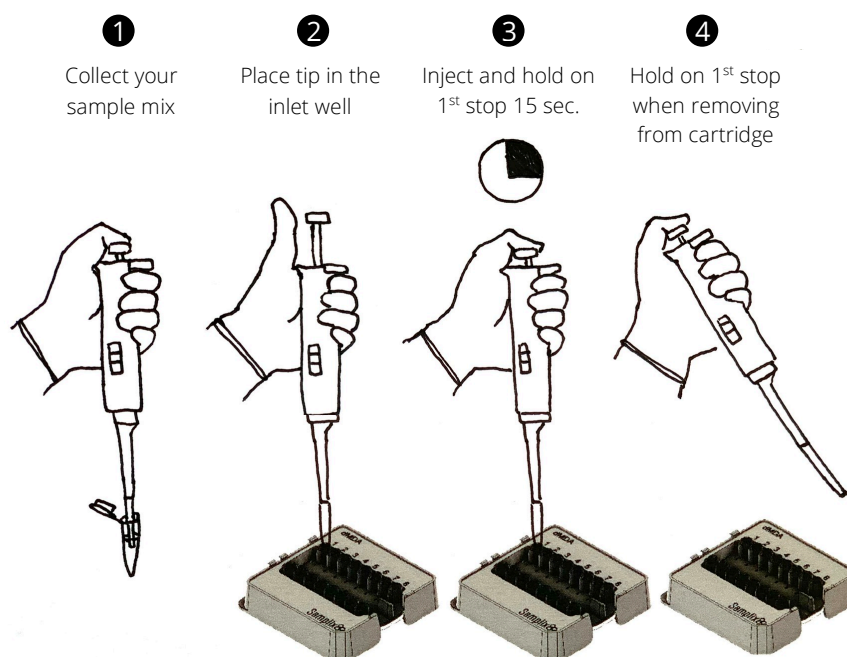
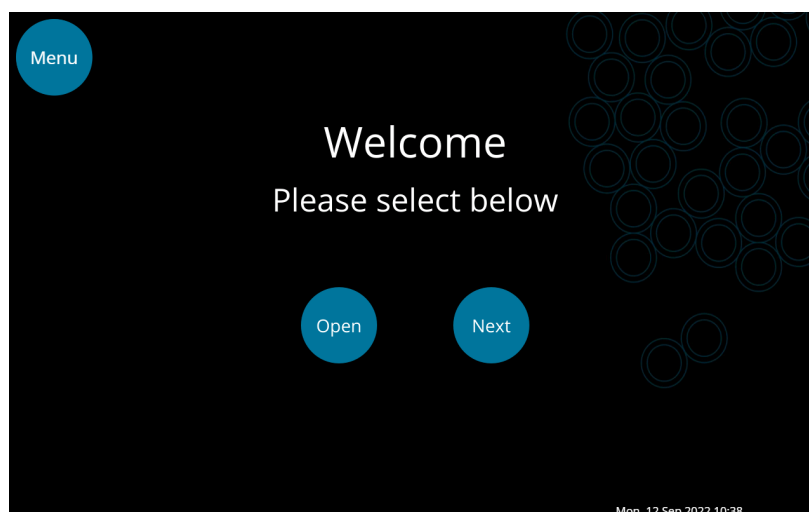

Fig. 5.3. Visualization of steps 5 through 8 for loading of the Xdrop SE85 cartridge.
**Fig. 5.4.** Attach the white rubber Xdrop SE 85 Gasket to T-hooks of the Xdrop SE85 Cartridge. Note that a gasket should only be used once to avoid contamination.
7. Slowly inject the sample until you reach the first stop position on the pipette plunger. **Without adding any more pressure to the plunger**, hold it for 15 seconds and ensure that you do not lose the tight connection of the pipette tip and the cartridge (Fig. 5.3).
10. Add **75 µl** Droplet oil (SE) ● to the side of the inlet well, allowing it to flow gently into the reservoir in the loaded lane(s). Do not inject the oil directly into the upper channel hole.
11. Place the gasket on top of the cartridge and fix it in place using the T-hooks (Fig. 5.4).